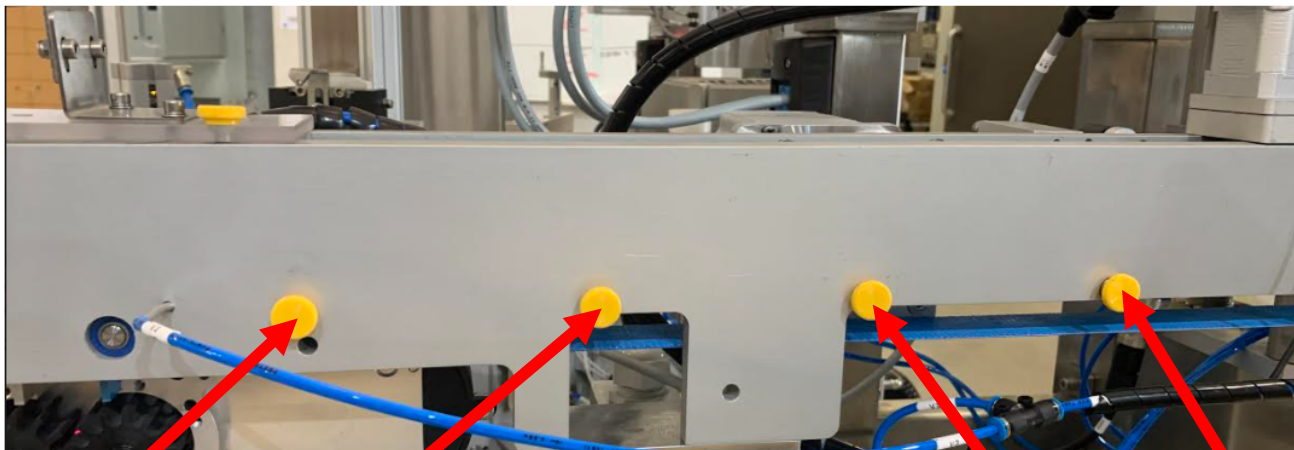

Figure 5-3 The Conveyor cleaning
1. Unscrew all the six (6) round thumb screws (see Figure 5-3 The Conveyor cleaning) to remove the right side facing the machine.
3. Make sure all dust is removed from all the surfaces and holes. Replace the right side by screwing all the six (6) screws to their rightful places.